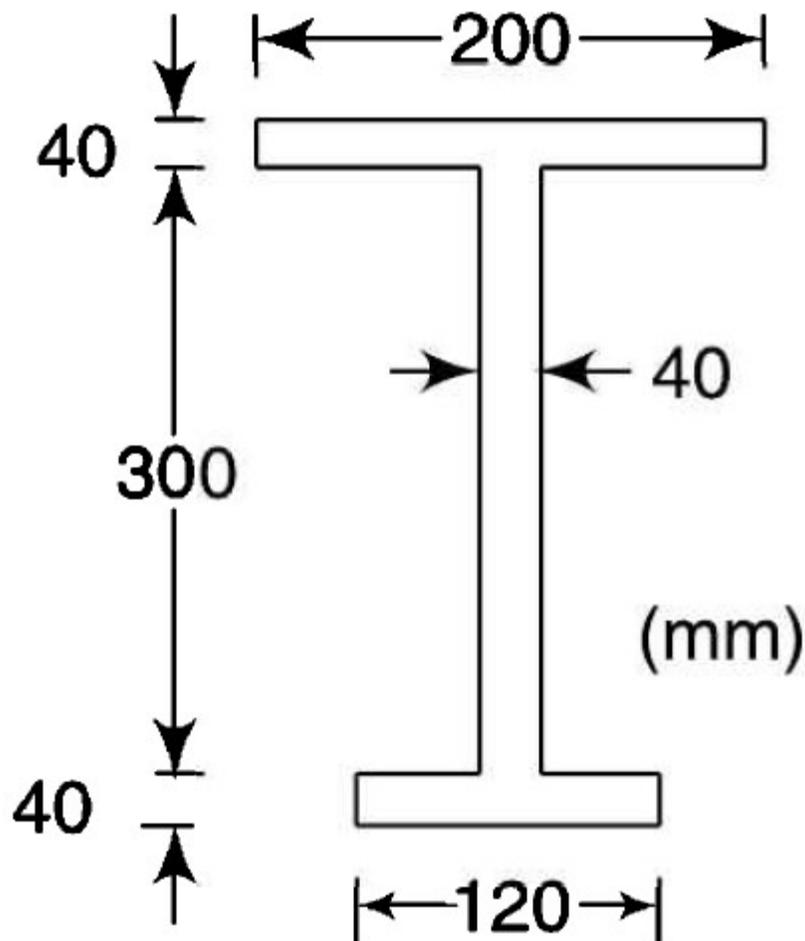

Figure 7
- B) A timber beam is designed to carry a load of 5 kN/m over a simply supported span of 6 m . The permissible stress 10 N/mm^2 . Take depth as twice of breadth. Design the beam. If the permissible stress in shear is 1 N/mm^2 , check for shear (2)
- C) A beam of 6 m is simply supported at the end and carries two-point load of 48 kN and 40 kN at distance of 1 m and 3 m respectively from left support. Take $E = 2 \times 10^5 \text{ N/mm}^2$ and $I = 85 \times 10^6 \text{ mm}^4$. Using Macaulay's Method to find, deflection under each load, maximum deflection and the point at which maximum deflection occurs. (5)
- 4) A cast iron bracket if I section as shown in figure 7, has its top flange is 200 mm and 40 mm , bottom flange as 120 mm and 40 mm and the web is 300 mm and 40 mm . Overall depth of section is 380 mm . If the beam is subjected to a shear force of 150 kN . Sketch distribution over depth of section. (6)